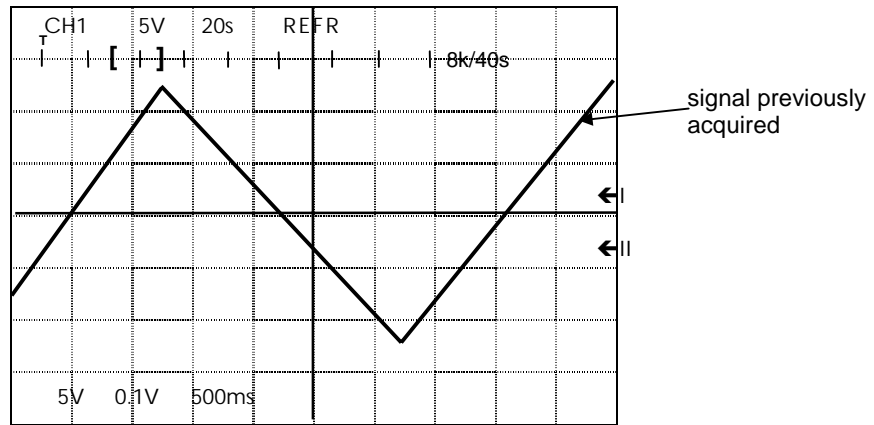

Figure 21: Setting the acquisition; purging the bargraph
- SINGLE or REFRESH mode and timebase of 200 s/div. to 100 ms/div.: since acquisition may be very long, its progression must be monitored. For this reason, the bargraph is purged at the start of acquisition and only the square brackets delimiting the memory and the screen remain (figure 21).